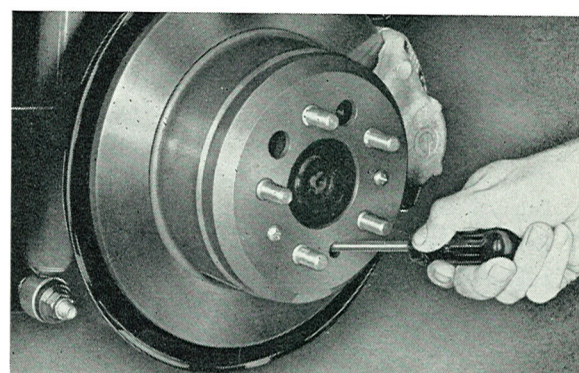

Fig. 5-81. Adjusting the handbrake, rear wheel
4. Set the drum so that its hole coincides with the serrations on the adjusting screw and apply the shoes by moving the screwdriver handle upwards, see Fig. 5-81. When the drum can be rotated easily, discontinue applying the shoes. Then turn the adjusting screw back 4—5 serrations. Check that the shoes do not "drag" by rotating the drum in its normal direction of rotation. Very little dragging may be permitted. If, however, the dragging is more pronounced, the adjusting screw should be released a further 2—3 serrations. Connect the cable to the lever and remove the holder SVO 2742.
1. Adjust the brake shoes of the rear wheels. Check here that the brake pads do not stick to the brake disc and adjust the drums so that its hole coincides with the serrations of the adjusting screw. Place a screwdriver between the serrations of the adjusting screw and apply the shoes by moving the screwdriver handle upwards, see Fig. 5-81. When the drum can be turned easily, discontinue applying the shoes. Then turn the adjusting screw 4—5 serrations back.